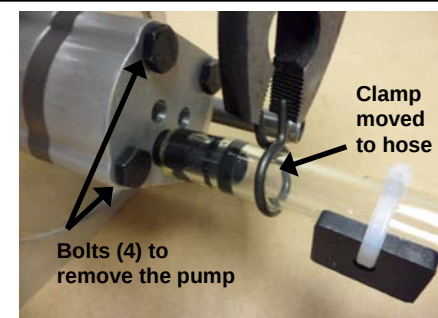

Figure 4 Pump bolts and spring clamp
- 6) Use a 7/16" wrench or socket to loosen and remove the four bolts. Pull the old pump away from the port plate and set aside. (See Figure 4 & 5)